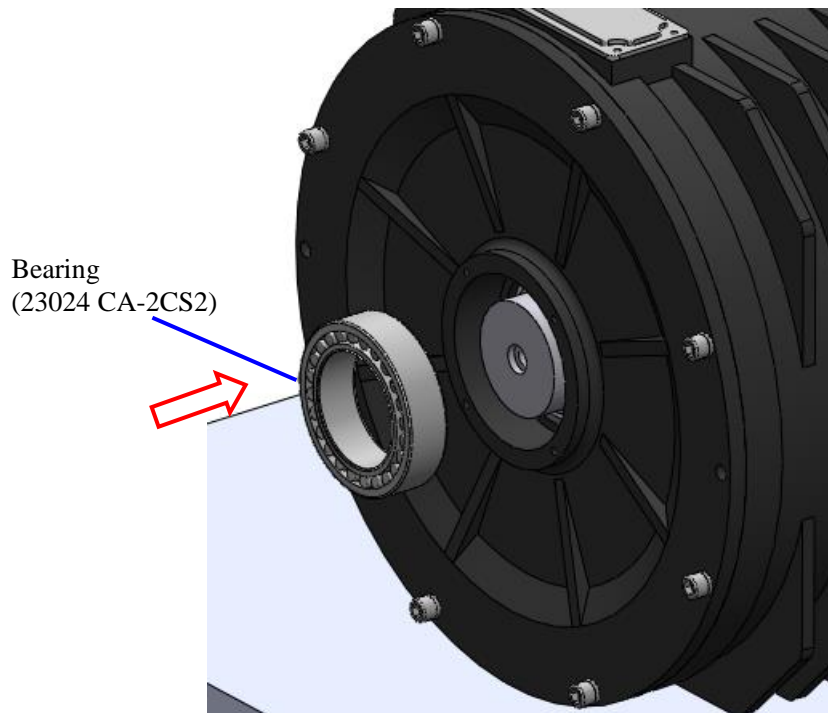

Figure 120: Install bearing
- Install bearing (23024 CA-2CS2) in the main shaft. Figure 120.